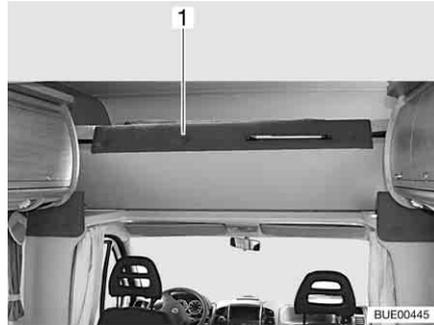

Fig. 84 Overcab bed, folded upwards
- Fold the front of the overcab bed (Fig. 84, 1) upwards. The overcab bed is kept in the upper position by gas-pressure springs.